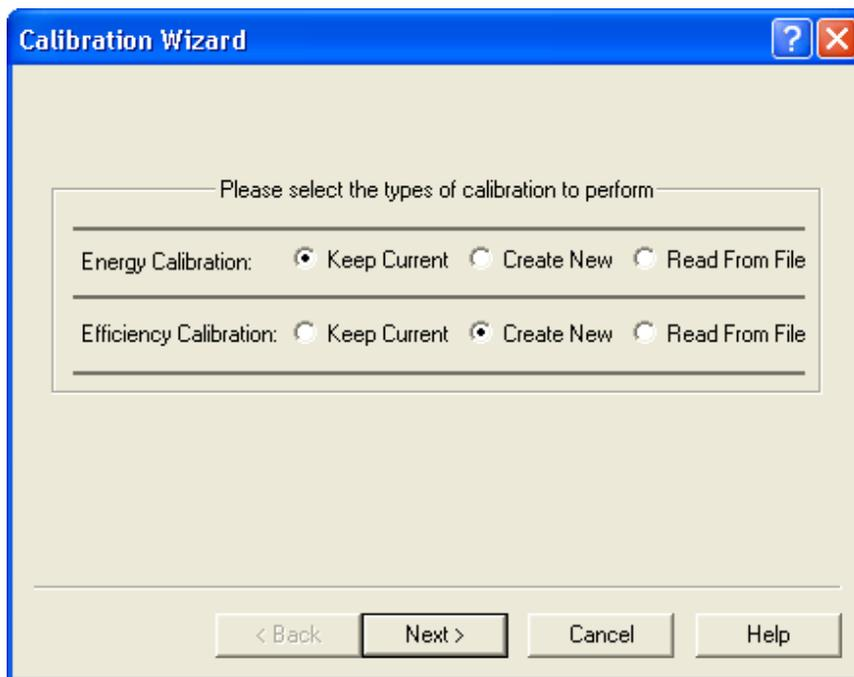

Figure 39. Calibration Wizard Opening Screen.
Figure 39 shows the first calibration wizard screen. The options for each type of calibration are to **Keep Current**, **Create New**, or **Read From File**.
- 3) Select **Calibrate/Calibration Wizard...** This will display the opening screen (see Fig. 39).
- 2) Select **Calibrate/Calibration Wizard...** This will display the opening screen (see Fig. 39).